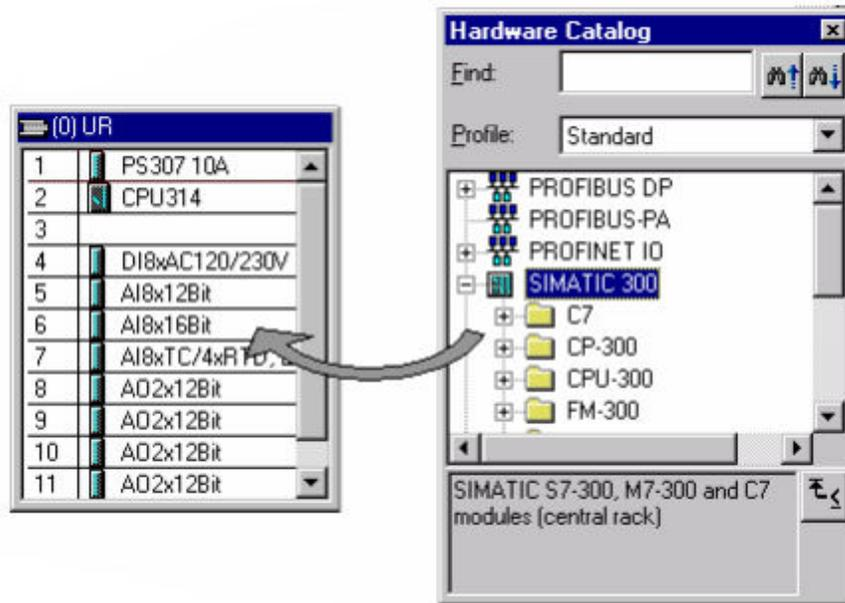

Figure 10: Basic steps for configuring a station
- Configure the station hardware (Power supply (PS), CPU, Digital Input (DI), ... etc.) according to their order in the racks, see figure 10. You can check the type and order no. from the hardware.